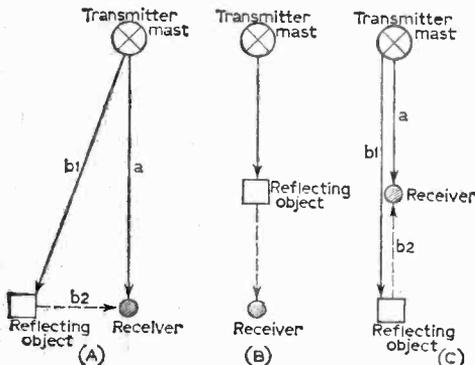

Fig. 1—The basic geometric relations of transmitter, reflector and receiver for ghost production.
It is the path difference between main and reflected signals which causes a proportionate time delay between the two signals, according to Table 1. We can distinguish three principle conditions, shown in Fig. 1, assuming the same relative transmitter-receiver and reflector-receiver distances in each case. In case (A), where these two distances are at right angles, so that  $a$  and  $b_1$  are roughly equal, the path-difference is very roughly  $b_2$ , the reflector-receiver distance. In case (C), where transmitter, receiver, reflector are in line, in that order, the path-difference is seen to be twice  $b_2$ , so that the ghost will appear twice as far from the main image as in case (A).